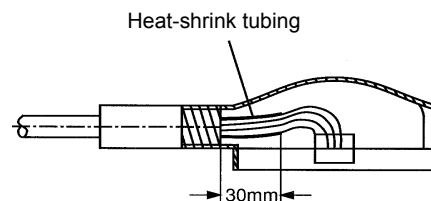

Fig. 3.2.1: Tubing for wire protection
- Protect wires against damage from the sharp edges of the connector hood using heat-shrink tubing (material to DIN ISO 1629: FPM), see figure 3.2.1.